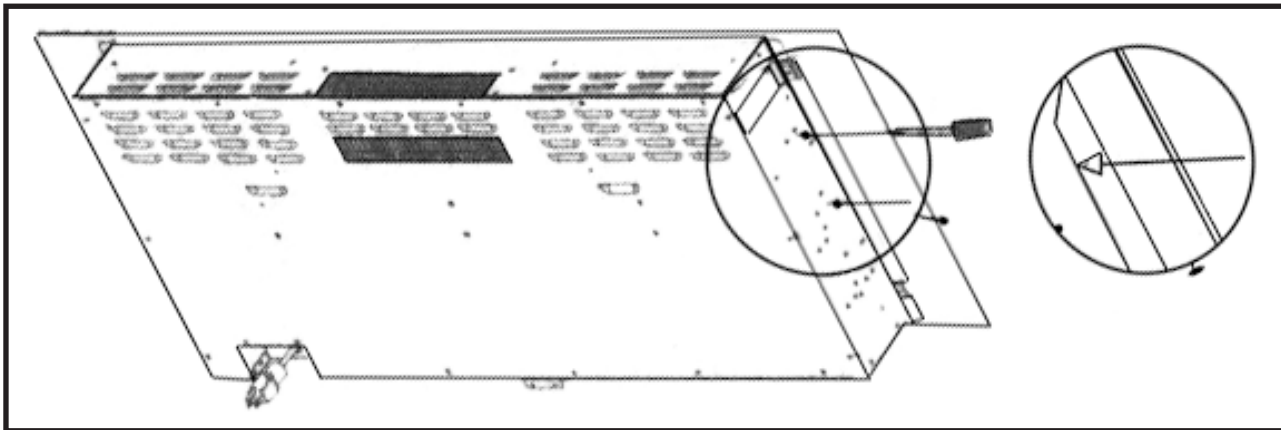

Fig. 3
- Remove the two pieces of white screws on both sides on the heater. See Fig 3